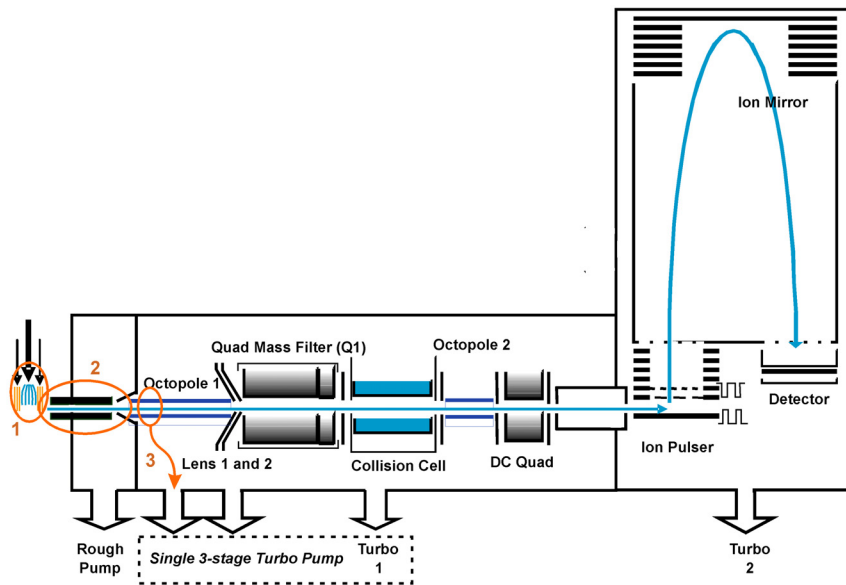

Figure 9 Schematic of Agilent 6530 Q-TOF LC/MS with major improvements circled
Figure 9 shows the complete Agilent 6530 Q-TOF schematic, with major improvements identified.
See Figure 9 on page 29 for a schematic of the 6530 Q-TOF.
Ions are generated using an electrospray ion source where the analyte is simultaneously ionized and desolvated from the liquid matrix. The first of three (3) innovative Agilent enhancements is found in the application of Agilent Jet Stream Technology (denoted as 1 in Figure 9) which improves sensitivity via thermal gradient focusing and enhanced desolvation. This technology is described in detail below (“Agilent Jet Stream Thermal Gradient Technology” on
The desolvated ions then enter the mass spectrometer via an innovative resistive and highly inert capillary transfer tube (denoted as 2 in Figure 9) that improves ion transmission and allows virtually instantaneous polarity switching.
Further increase in ion transmission is obtained by improvement of the pumping speed in vacuum stage 2, resulting in better ion capture by the first octopole (denoted as 3 in Figure 9). The ions next pass through the optics and into the quadrupole analyzer. The quadrupole analyzer consists of four parallel hyperbolic rods through which selected ions based on their mass to charge ratio are filtered.